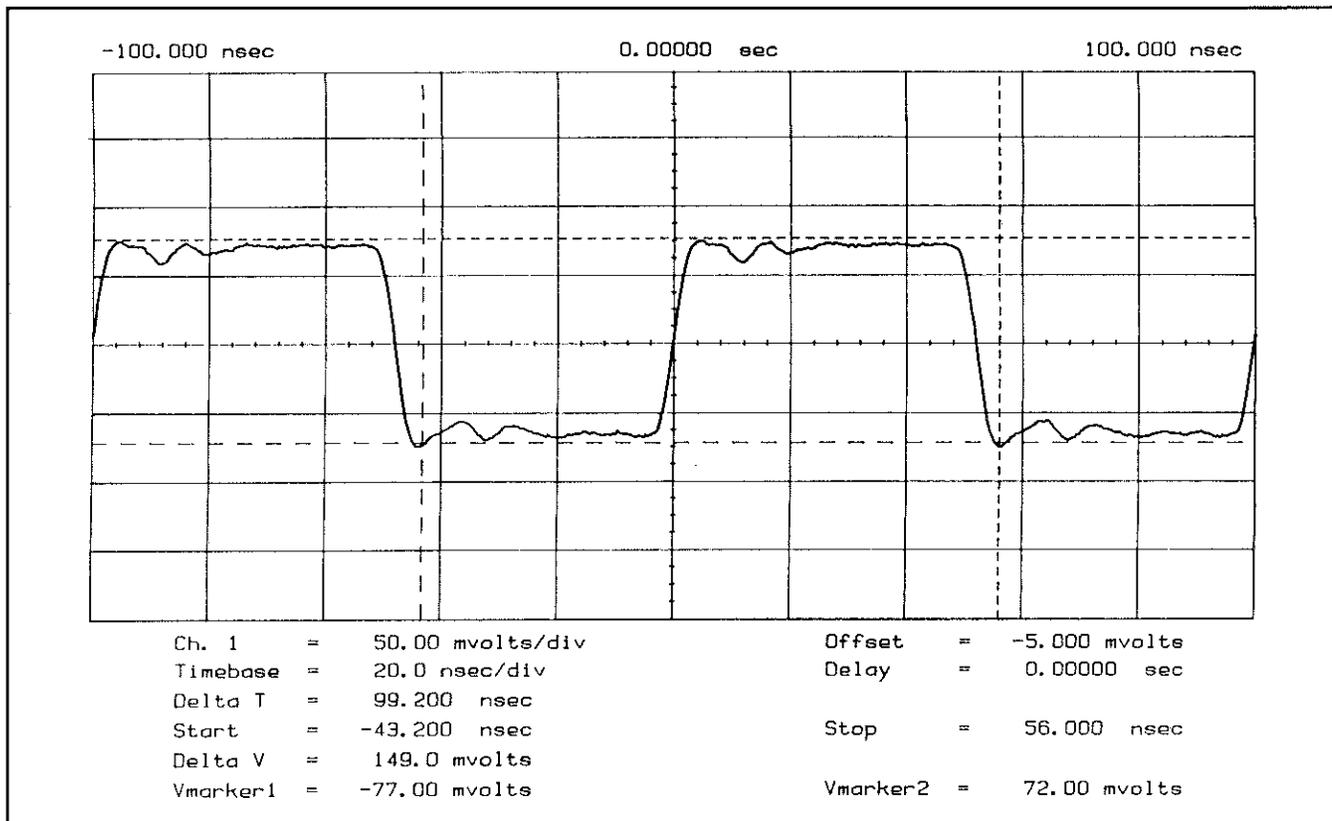

Figure 7C-6. A2U2(2) [A2U14(2)] 10MHz Square Wave
- D. Verify that A2U2(14) and A2U14(14) are set at +480 mV. (See *Figure 7C-7*.) If A2U2(14) [A2U14(14)] are not both set at +480 mV, proceed to the "Trigger Level Control Check".